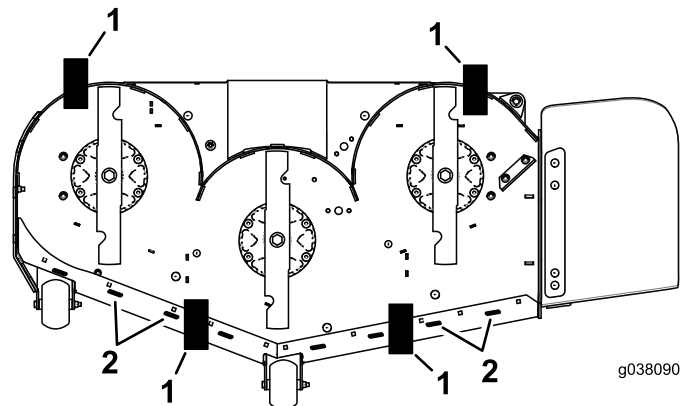

Figure 89
11. Place 2 blocks (see Block Height and Rake Table) under the rear edge of the cutting deck skirt; 1 on each side of the cutting deck (Figure 89).